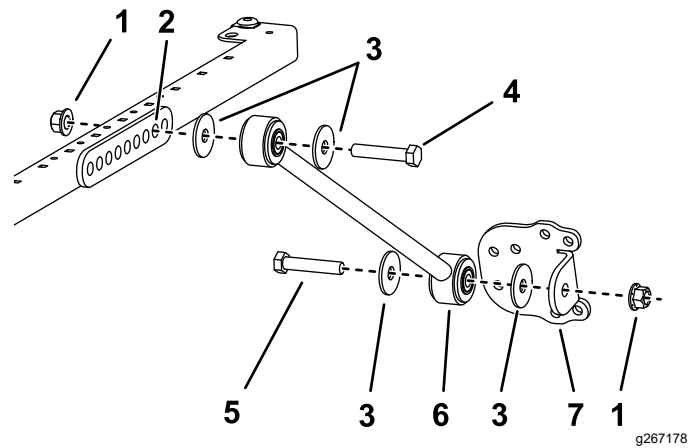

Figure 34
- For Models 30446, 30446N, 30447, and 30447N, on each side of the sunshade frame, loosely mount a brace to the **second** hole of the brace bracket with a bolt (1/2 x 2-1/2 inches), washer (1/2 inch), and flange nut (1/2 inch) as shown in Figure 34.